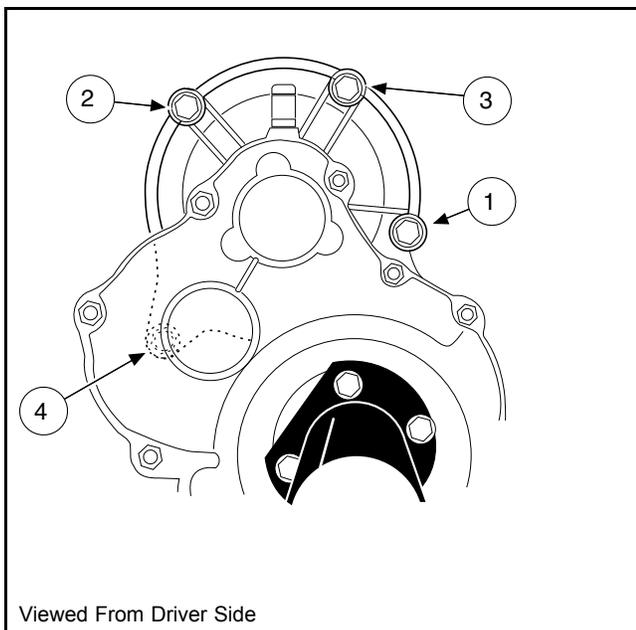

Figure 27-20 Motor Tightening Sequence
- 3.3. Begin finger-tightening the bolts (1 and 2) in the sequence indicated (**Figure 27-20, Page 27-15**). Continue tightening by hand until the motor is seated in the transaxle housing. **See following CAUTION and NOTE.**
- 3.4. Tighten the right bolt (1) to 65 in-lb (7.3 N·m) (**Figure 27-20, Page 27-15**).
- 3.5. Tighten the left bolt (2) to 65 in-lb (7.3 N·m) (**Figure 27-20, Page 27-15**).